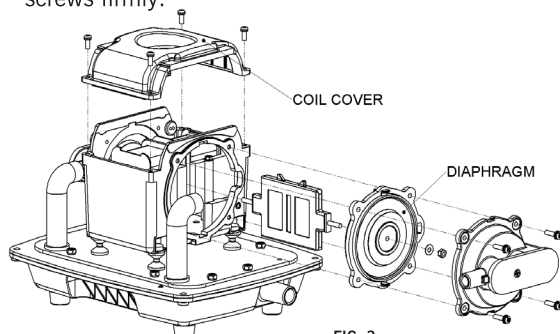

FIG. 3
2. Loosen the four screws around the coil cover, and take the cover off. (As shown in figure 3)